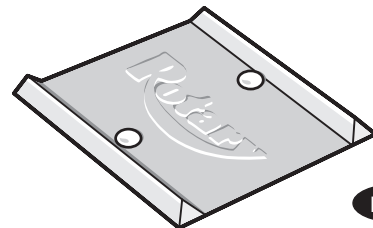

Fig. 27
**24. Wheel Spotting Dish:** Position wheel spotting dish as illustrated in Fig. 1a. Drill (2) 3/8" holes 2-1/2" deep in concrete floor using holes in wheel spotting dish as guide. Drive both anchors, provided, into concrete to secure dish, Fig. 27.